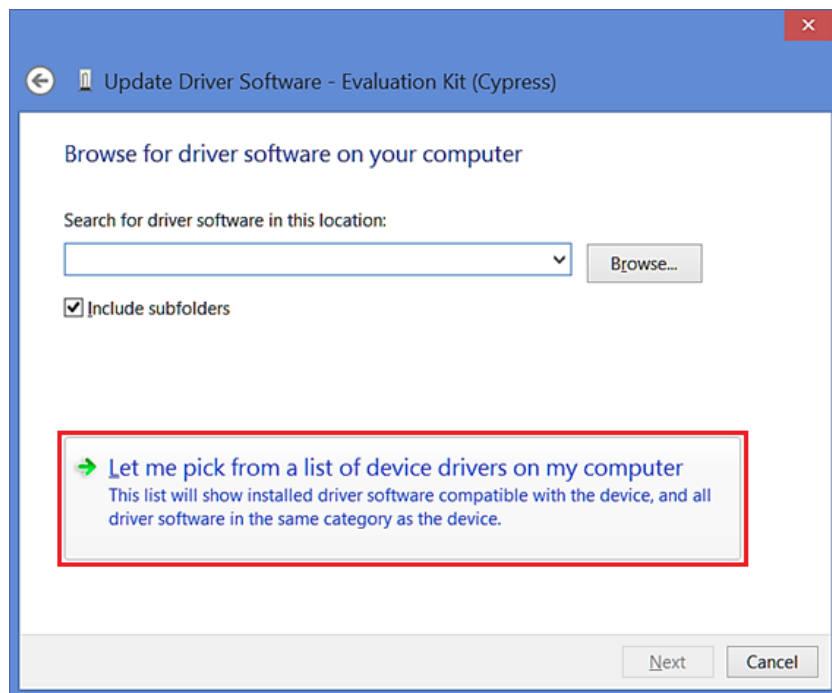

Figure 90. Update Driver Software – 2
5. Select "Let me pick from a list of device drivers on my computer", as shown in *Figure 90*.